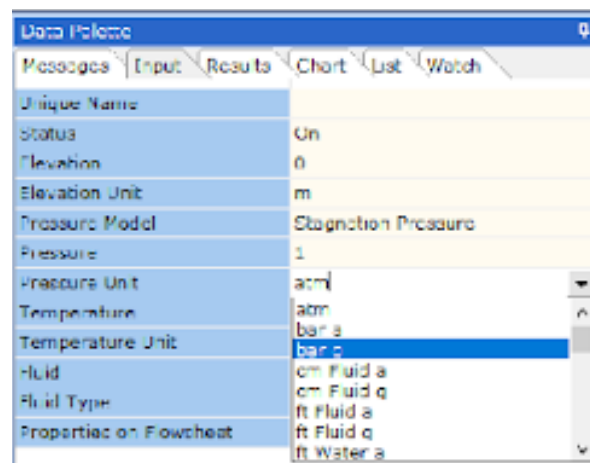

Figure 9: Pressure Units.
10. In this case we need to change the *Pressure Unit* from the default **atm** setting to **barg**. Left mouse-click on the *Pressure Unit* field and you will see a drop-down arrow symbol appear on the right-hand side. Click on this symbol and a drop-down menu will appear showing the various units you can choose from. Select **barg** from the list (Figure 9). We have now successfully changed the pressure units for both nodes.